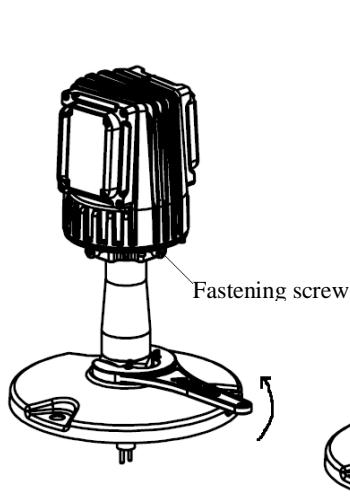

Figure 5-1
- Loosen fastening screw on the body, hold the head, and disconnect the lighting fixtures from flanges with elevated light nut wrench. (See Figure 5-1)